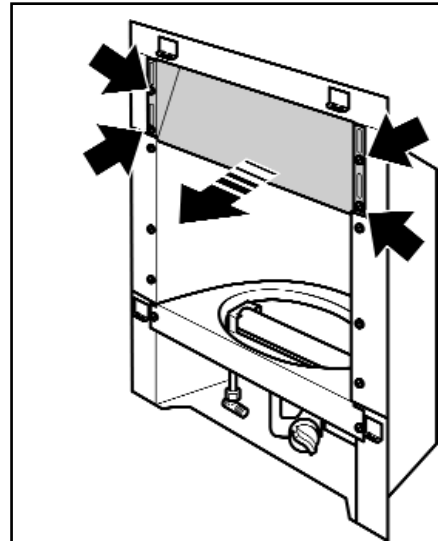

Figure 45. Spillage plate removal
3. Detach the spillage plate from the hotbox by removing the four screws (See figure 45). Place the spillage plate in a safe place away from the work area.